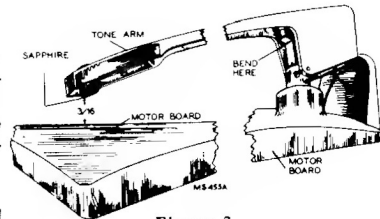

Figure 3
3. Bend portion of the tone arm bracket so that the sapphire is  $\frac{3}{16}$  inches above the flat surface of the motorboard. (Figure 3.)